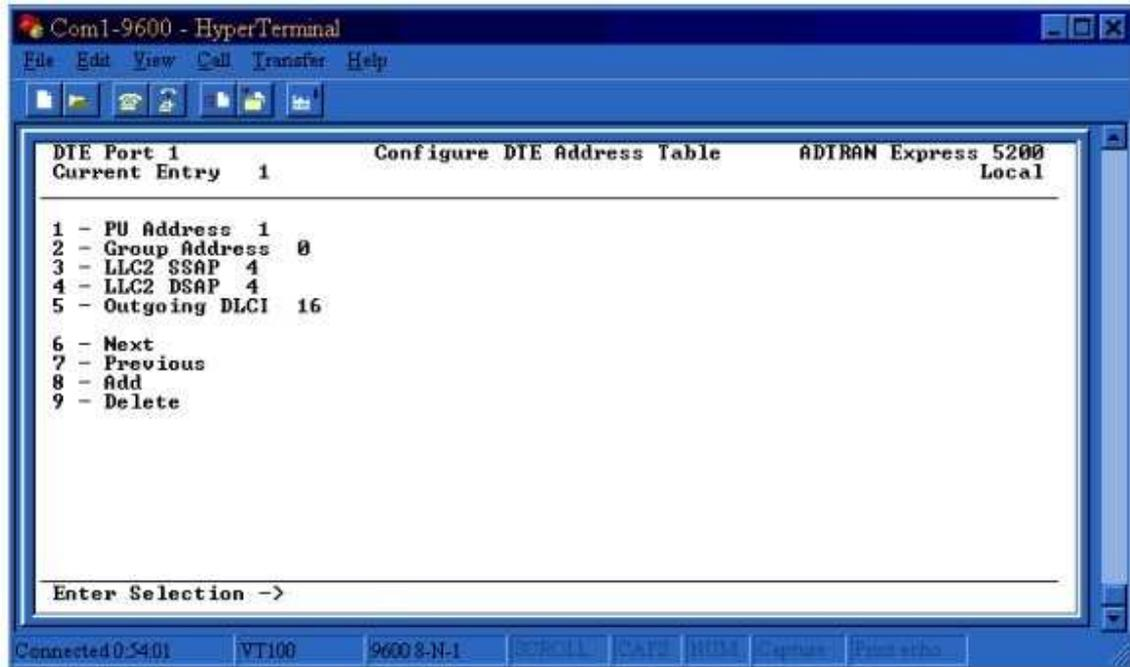
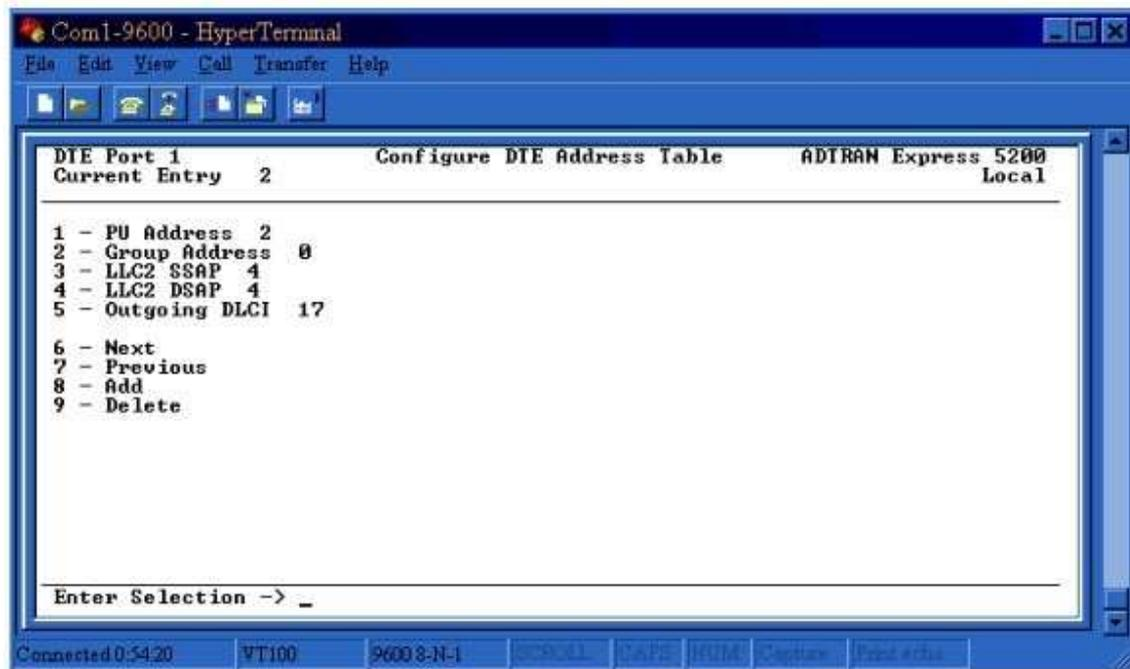

Figure 12
Figure 13
| | Atlanta (Figure 13) | Birmingham (Figure 12) |
11. The **PU Address** (Physical Unit Address), also known as station address, must match the value configured in the AS/400. The **LLC2 SSAP** (Source Service Access Point), **LLC2 DSAP** (Destination Service Access Point), and **Outgoing DLCI** values are independent from the AS/400 configuration. These fields must be configured appropriately between the host and remote units for the proper transfer of data. See Figures 12 and 13. It is important to note that the **LLC2 SSAP** and **LLC2 DSAP** fields are hexadecimal values and can only be increments of 4, such as 4, 8, C, 10, etc.